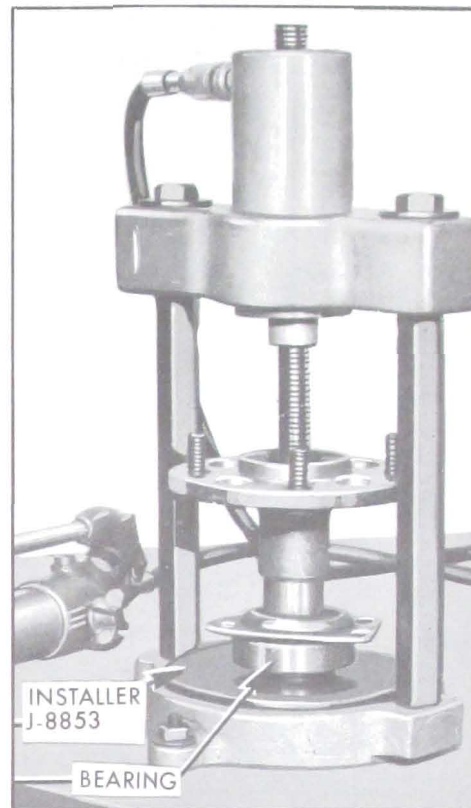

Fig. 6-8—Installing Axle Shaft Bearing
3. Press new axle shaft bearing against shoulder on axle shaft using Installer J-8853 with Holder J-6407. See Figure 6-8. **CAUTION:** Retainer plate which retains bearing in housing must be on axle shaft before bearing is installed; retainer gasket can be installed after bearing.